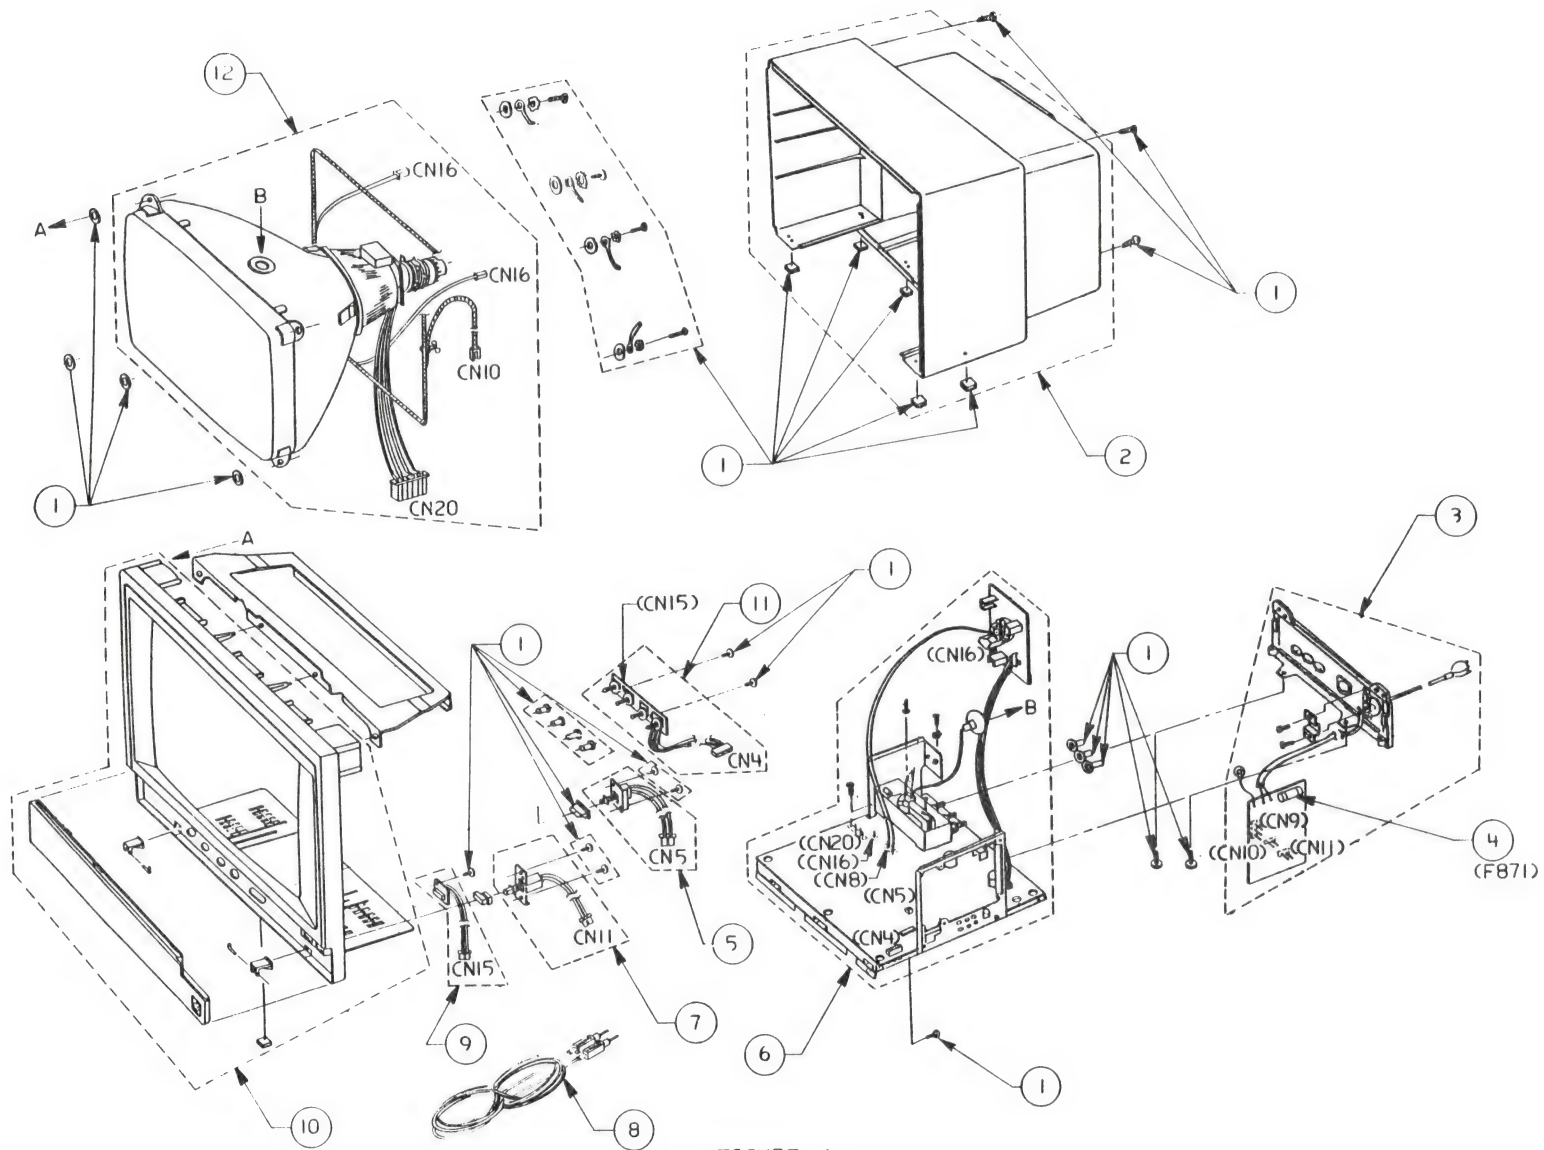

FIGURE 1
**COLORMONITOR IIe, SERIES "S" (Figure 1)**